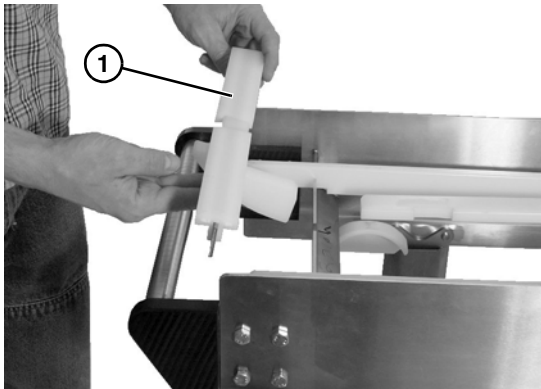

Figure 46
2. Remove the nose bar idler bar with wear strips and idler shoe attached (**Figure 46, item 1**).